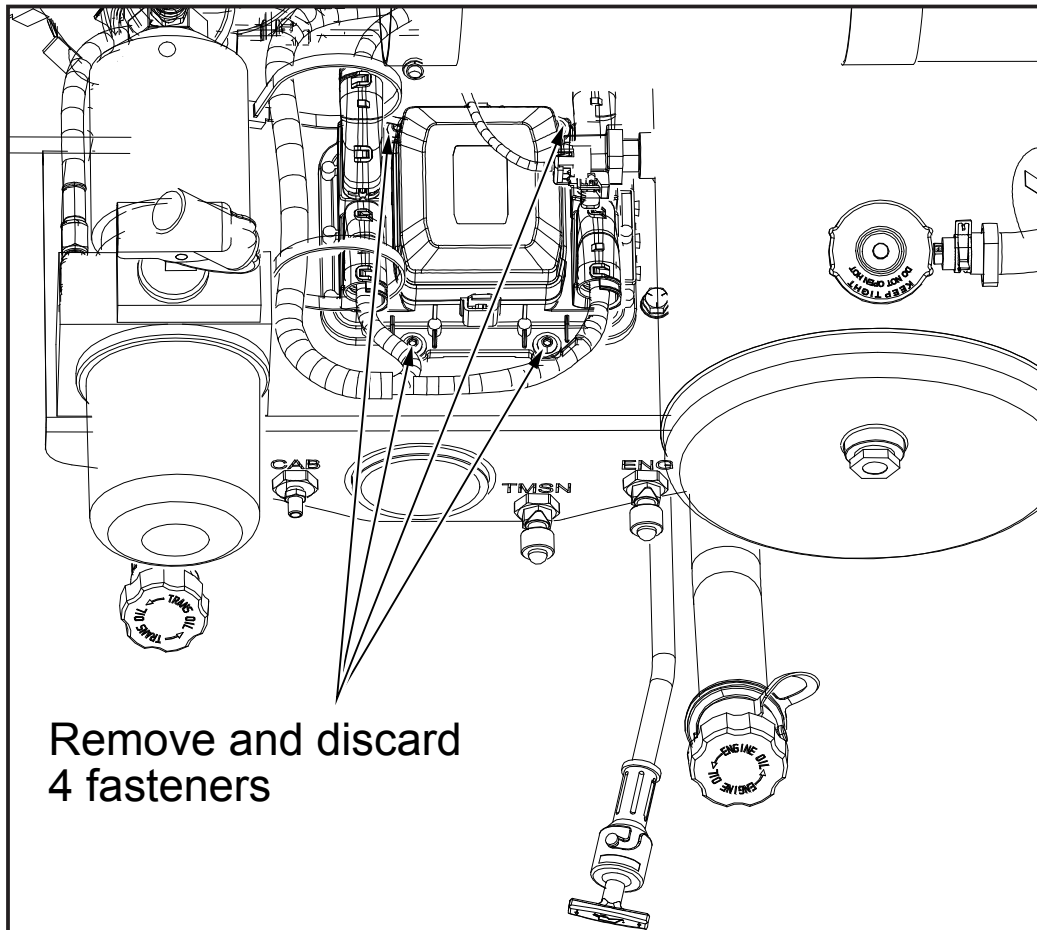

Figure 2
3. Locate the external fuse box, remove and discard the four mounting fasteners (see Figure 2).